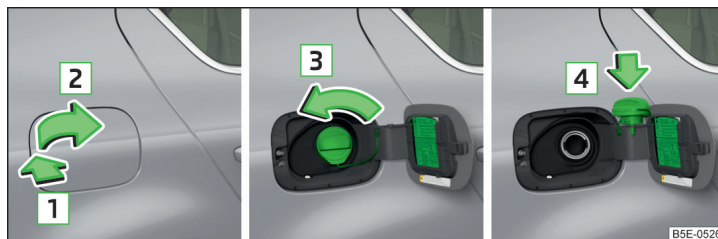

Fig. 303 Open fuel filler flap/unscrew tank cap/place the tank cap on the fuel filler flap
- Press the fuel filler flap in direction of arrow **1** and fold in the direction of arrow **2** » Fig. 303.